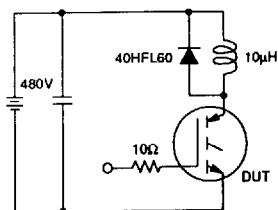

Fig 12a. Clamped Inductive Load Test Circuit
- ② $V_{CC} = 80\% (BV_{CES})$, $V_{GE} = 20V$, $L \geq 10\text{ }\mu\text{H}$, $R_G = 10\Omega$, (See figure 12a)
- ③ Pulse width $\leq 80\text{ }\mu\text{s}$; duty factor $\leq 0.1\%$.
- ④ Pulse width $\leq 5\text{ }\mu\text{s}$, single shot
- ⑤ K/W equivalent to $^\circ\text{C}/W$